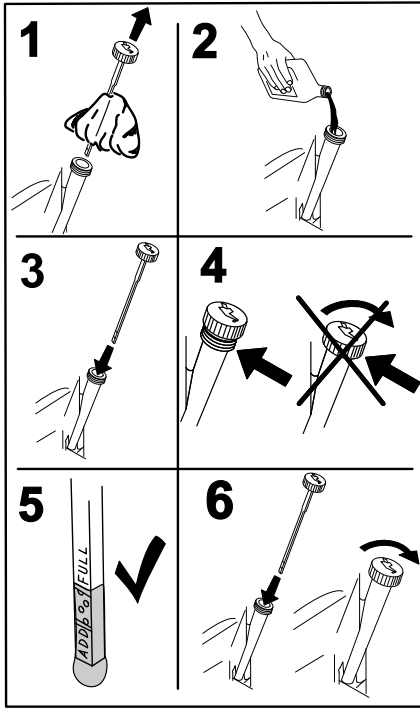

Figure 30
- Slowly pour approximately 80% of the specified oil into the filler tube and slowly add the additional oil to bring it to the **Full** mark (Figure 30).